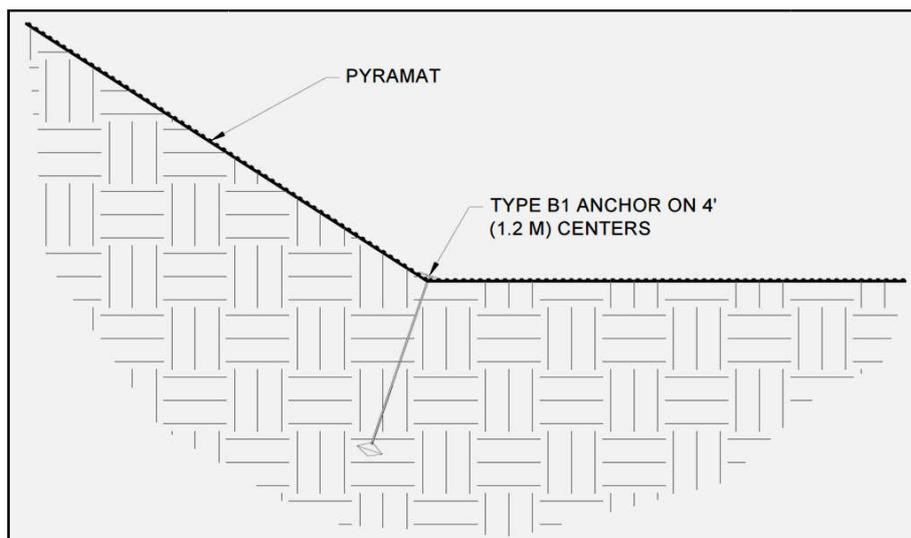

Figure 25: Break in Slope Interface
- d. At the break in slope interface towards the channel bed, it is suggested that PDEAs be installed on 4 ft (1.2 m) centers (Figure 25).